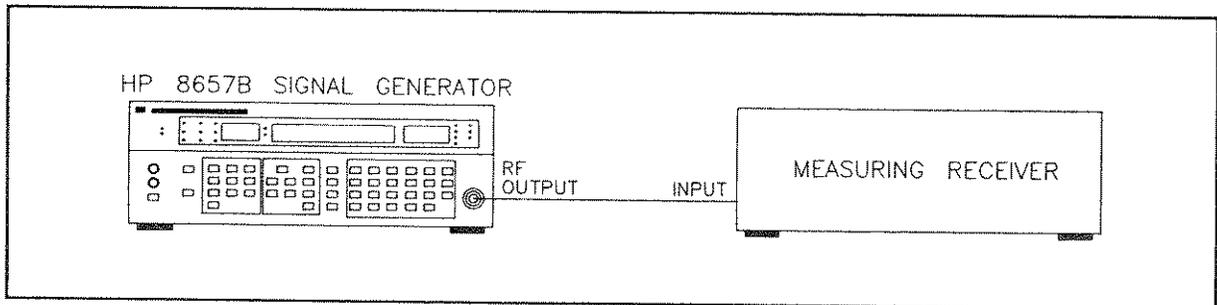

Figure 4-4. Residual FM Test Setup
12. Connect the RF OUTPUT of the HP 8657B under test to the input of the measuring receiver as shown in Figure 4-4.